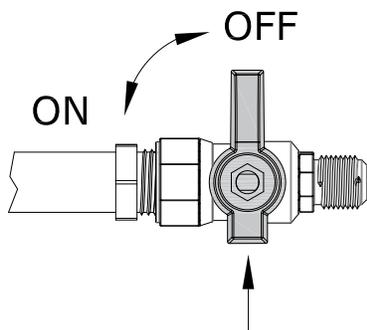

Figure 7.11 - Turn Off Gas
1. Disconnect the electrical power of the fireplace. Locate the main shut-off valve upstream of the appliance connector and close the valve. Figure 7.11.